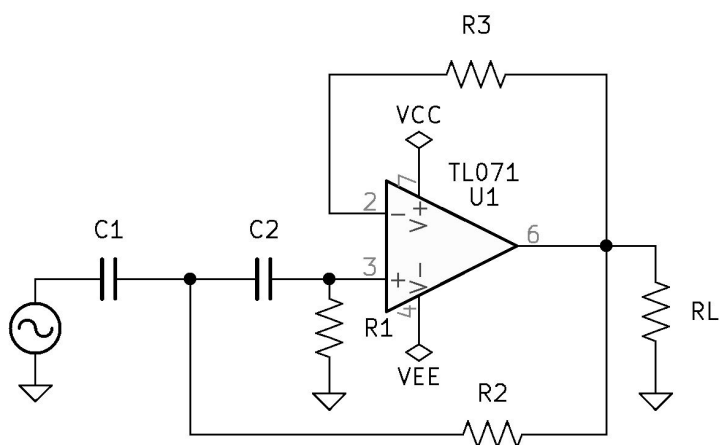

Figure 8.7: High-Pass Second-Order Active Filtering Circuit.
1. See Figure 8.7 *High-Pass Second-Order Active Filtering Circuit* on page 85.